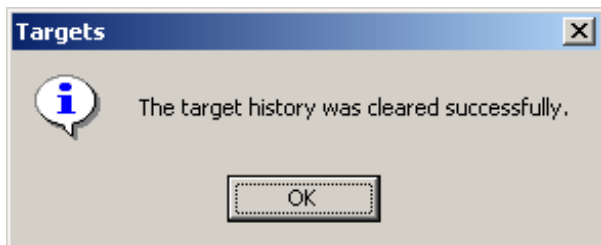

Figure 2-13 Clear Targets Dialog Screen
2. Select **Yes**. IPScm® will display the Clear Targets dialog screen (Figure 2-13).